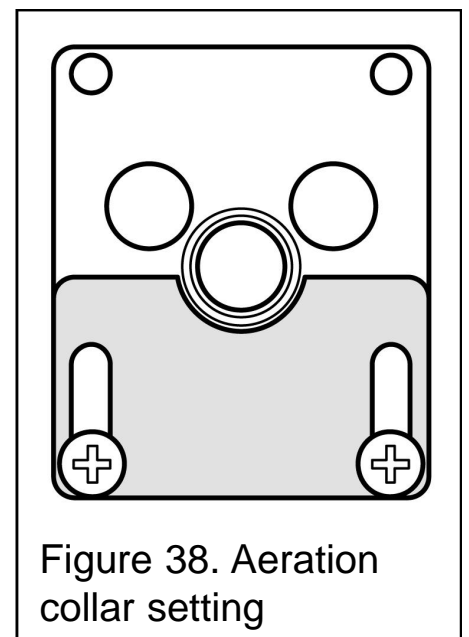

Figure 38. Aeration collar setting
1. The aeration collar is factory set and **will** require adjustment. **It is important to ensure that the aeration setting is correct (See figure 38).**
2. To adjust the aeration setting, loosen the two aeration shutter screws, slide the aeration shutter to the position shown in figure 38 and tighten the fixing screws.